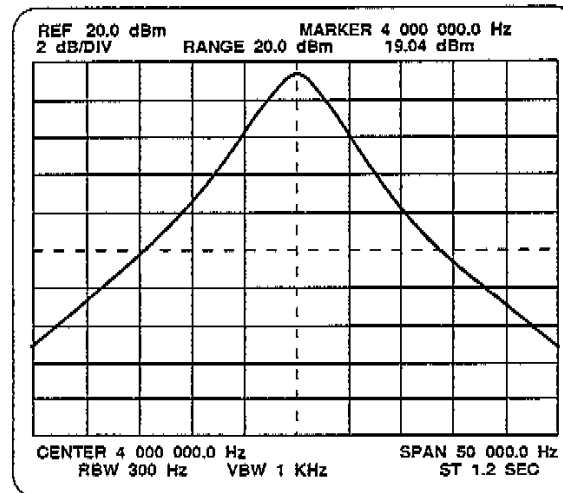
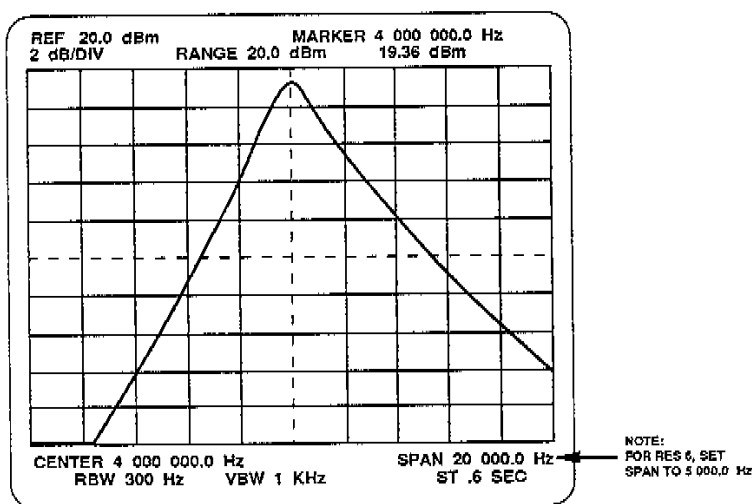

Figure 3-16. Proper adjustment of HIZ and SKIRT
Figure 3-17. Proper adjustment of LOZ.
4. Return to step 16. Repeat steps 16 and 17 to eliminate interaction. Refer to Figure 3-16 and Figure 3-17.